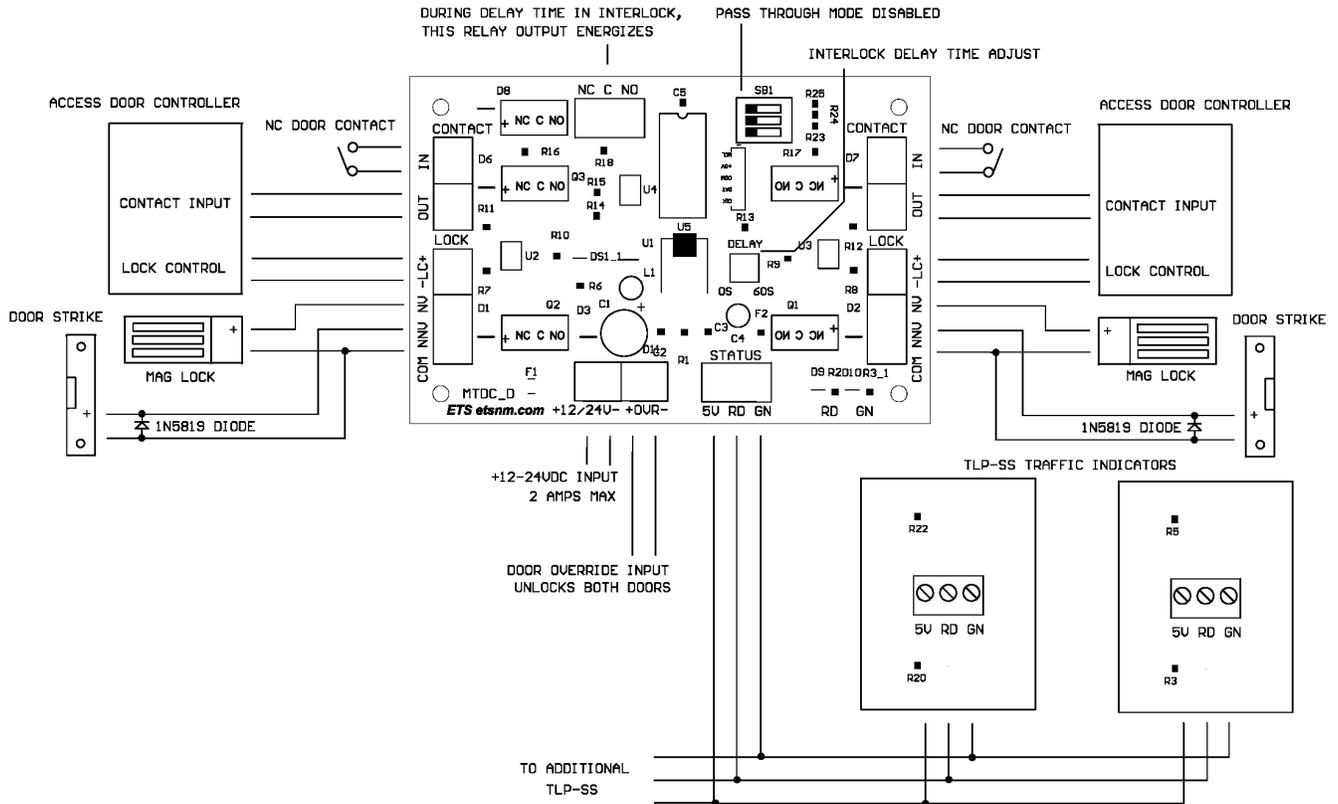

Figure 1 Access control mode.
The MTDC accepts 12-24Vdc at 2 amps maximum. The input power is also routed to the lock control outputs. The lock control outputs are auto-reset fused in the event a lock fails-shortened. See figure 1.
The MTDC OVR input accepts a 5-24vdc input Voltage or a NC dry relay contact input. The factory default is for a Voltage input. See Figure 2 for jumper settings to set the board to accept a dry contact input. This input overrides all interlock functions and opens both doors immediately. If traffic lights are connected to the MTDC, the red and green LEDs will flash back and forth at ½ Hz. Once the override is removed the system resumes normal operation. See figure 1.
The MTDC allows the connection of up to 4 TLP-SS traffic light indicators to prompt persons using the interlock system for "GO" and "STOP" situations. Below is a table of the various LED indications. See figure 1.
This output changes state when the interlock timer is activated and the contacts are rated for 2 Amps. If the interlock timer delay control is set to 0, this output changes state for 1 second. See figure 1.
This control allows for a delay between when the first door opens and when the second door is permitted to be opened. During the adjustable delay of 0-60 seconds, The NC C NO output will change state. This output can be used to trigger decontamination fans or other equipment. If the delay time is set to 0, the delay timer does not function. During the interlock time interval, the red LED output will flash at a rate of 1/2Hz. See figure 1.
A NC (normally closed) door contact must be connected to these inputs for both doors in order for the MTDC to function. See figure 1.
This is a normally closed output that follows the state of the door contact input (IN). It is provided to report door status to the connected access control reader to indicate forced door, door propped or auto-lock on door opened conditions. See figure 1.
The locks are connected directly to these outputs. These outputs can supply up to 1 Amp at 12-24Vdc. NNV stands for Normally No Voltage and NV stands for Normally Voltage. See figure 1.
NOTE- Be sure to install transient protection diodes (such as type 1N5819) when using door strikes. Maglocks can be directly connected to the board. See figure 1.